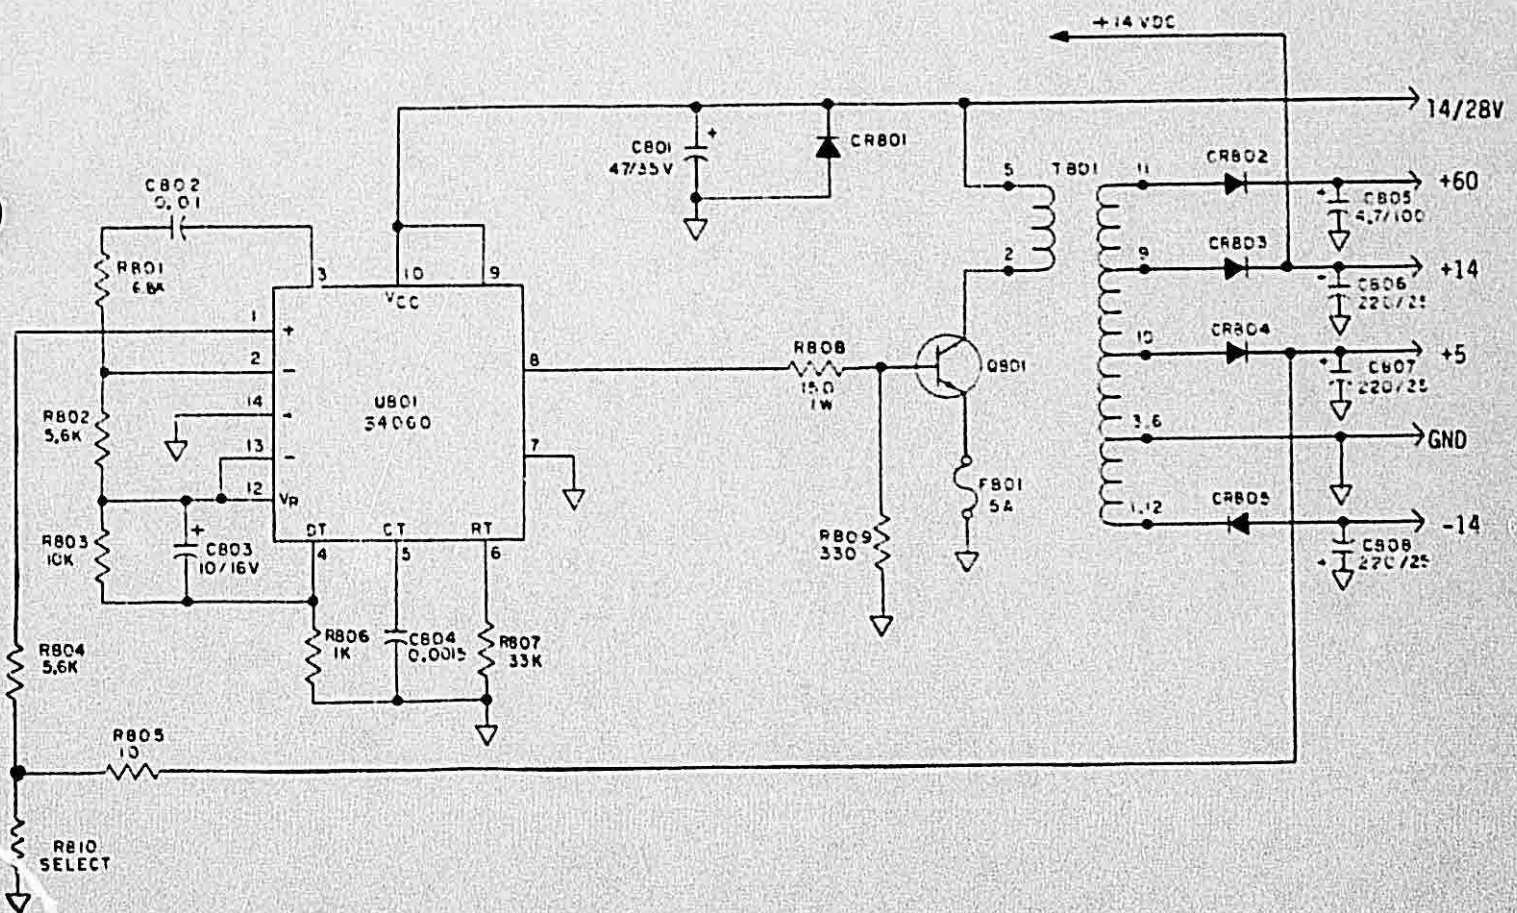

FIGURE 4-14. PULSE WIDTH MODULATED FLYBACK CONVERTER
Refer to Figure 4-14 for the following discussion:
The control signals are external inputs that can be fed into the dead-time (DT) control, the error amplifier inputs, or the feedback (pin 3) input. The dead-time control comparator has an effective 120 millivolt input off-set which limits the minimum output dead-time (OFF) to the first 4% of the sawtooth cycle time. This would result in a maximum output pulse duty cycle of 96%. However, additional dead time (75%) is imposed on the output by the external resistors R803/R806. (See Figure 4-14) The internal pulse width modulator comparator provides a means for the error amplifiers to adjust the output pulse width from the maximum percent on-time, established by the dead-time control input, down to zero, as the voltage at the feedback pin 3 varies from 0.5 to 3.5 V.